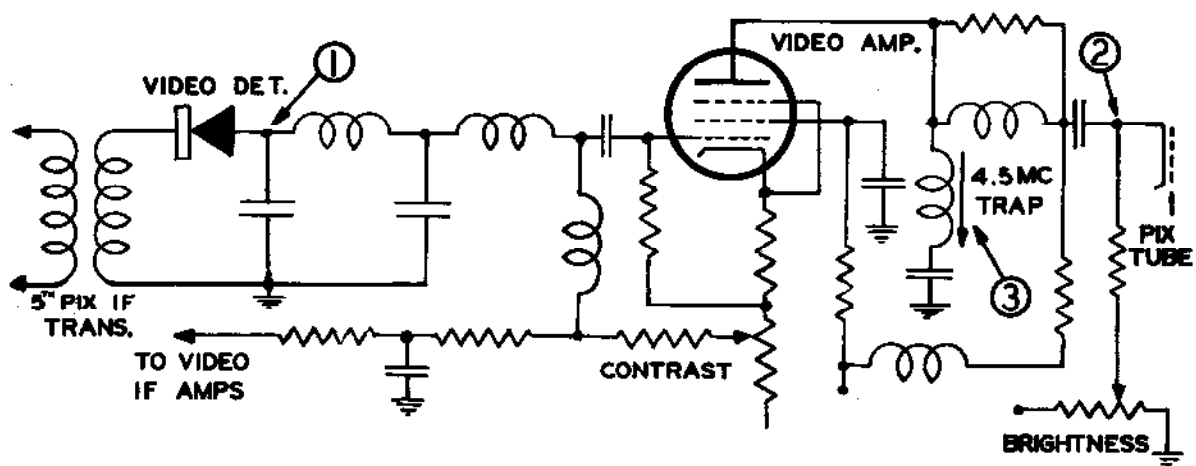

Fig. 6 TYPICAL BLACK & WHITE VIDEO AMPLIFIER
- w. Adjust the 4.5 MC trap. (Point 3 of Figure 6) for a response as shown in Figure 1. (Some sets do not have this trap).